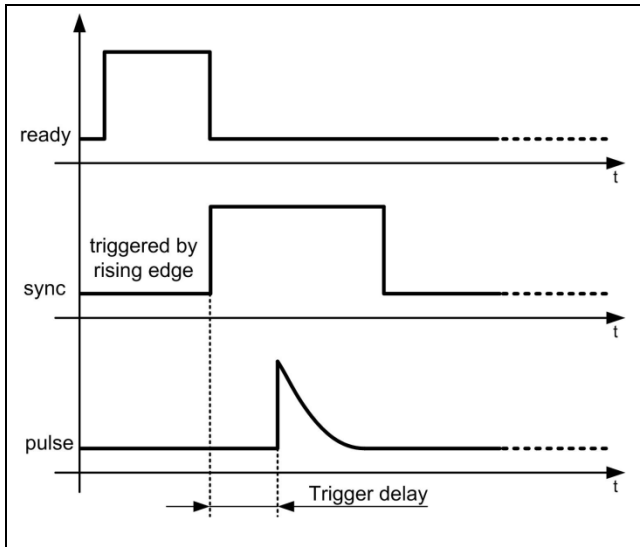
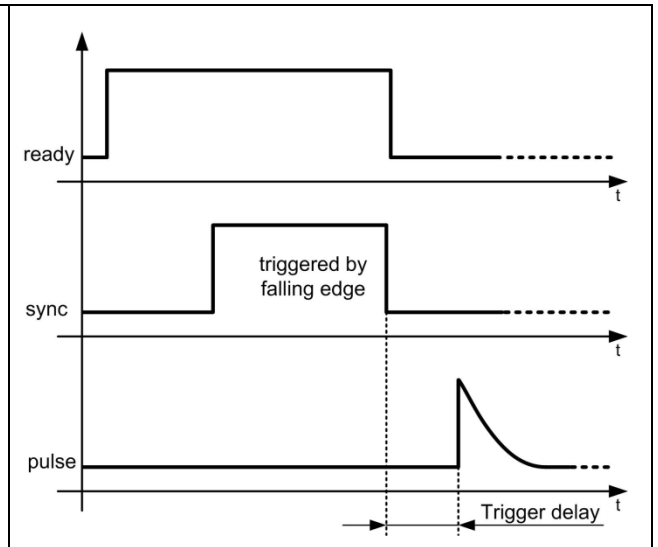

Figure 44: Signal sequence of external trigger mode, trigger on rising edge
Figure 45: Signal sequence of external trigger mode, trigger on falling edge
The ready TTL output of the BPS 202 signals when the BPS 202 is ready to start a pulse. Figure 44 and Figure 45 show the sequence of control signals when the external trigger mode is used.
- c) pulse is emitted on a rising or falling edge at the sync TTL input (Figure 45). This depends on the settings in the BPS 202-Client software (see Section 8.9),